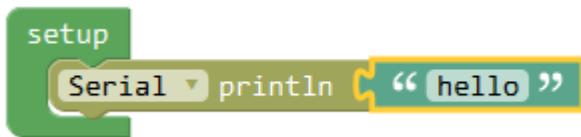

Figure 1-6-1
- 1) Control building blocks are the building blocks that control the execution process of the program. The main program is shown in Fig. 1-6-1.